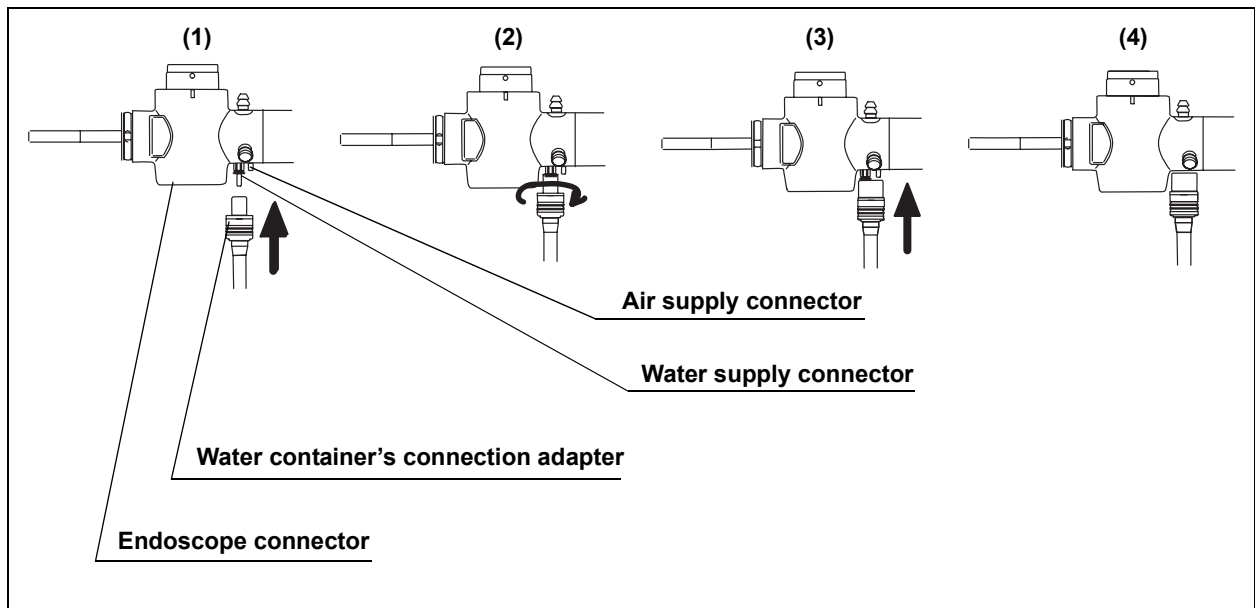

Figure 3.19
3. Connect the water container's connection adapter to the air supply connector and water supply connector (see Figure 3.19).